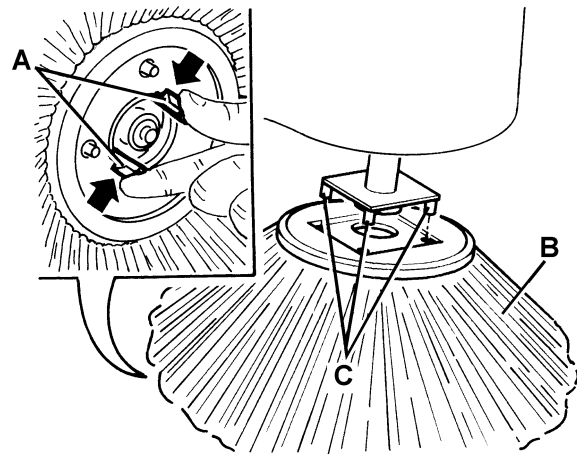

Figure 8
1. Drive the machine on a level ground and engage the parking brake with the pedal (3) and the lever (4).
2. Turn the ignition key (82) to "0".
3. Lay the hand inside the side broom and press the tabs (A, Fig. 8) inwards, then remove the broom (B) by disengaging it from the four pins (C).
4. Install the new side broom by engaging it on the pins (C, Fig. 8) and on the tabs (A).